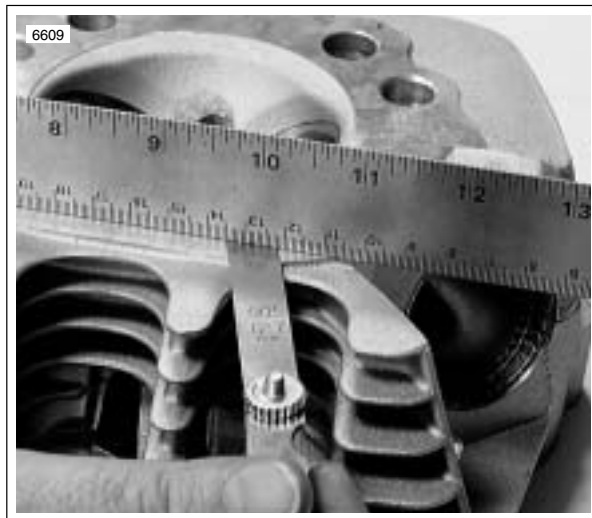

Figure 3-62. Checking Gasket Surface
4. See Figure 3-62. Check head gasket surface on head for flatness. Machine or replace any head which exceeds SERVICE WEAR LIMIT of 0.006 in. (0.152 mm).